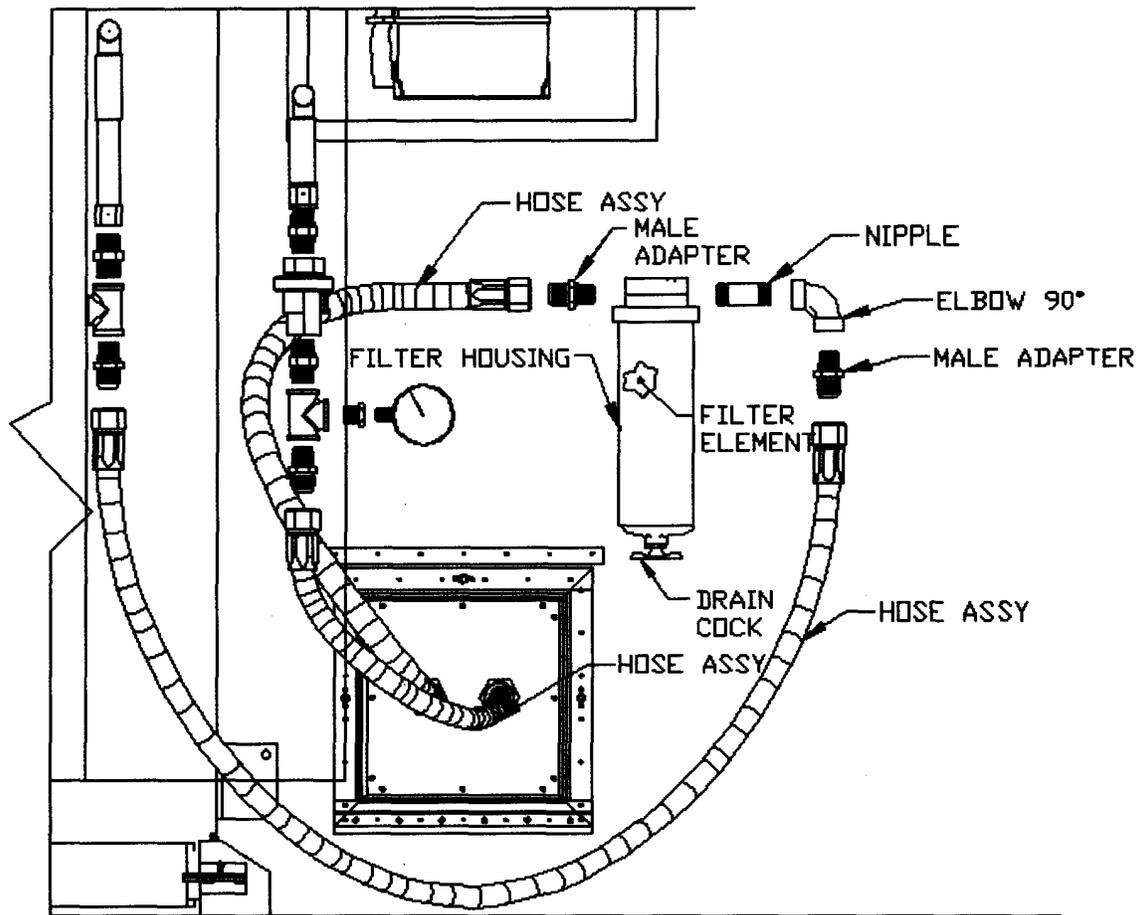

Figure 7. Water Filter Installation
35. Screw the other end of hose assembly with part number MFKA100221-5 onto bulkhead fittings and mount assembly straight adapter marked SUPPLY. See Figure 7.